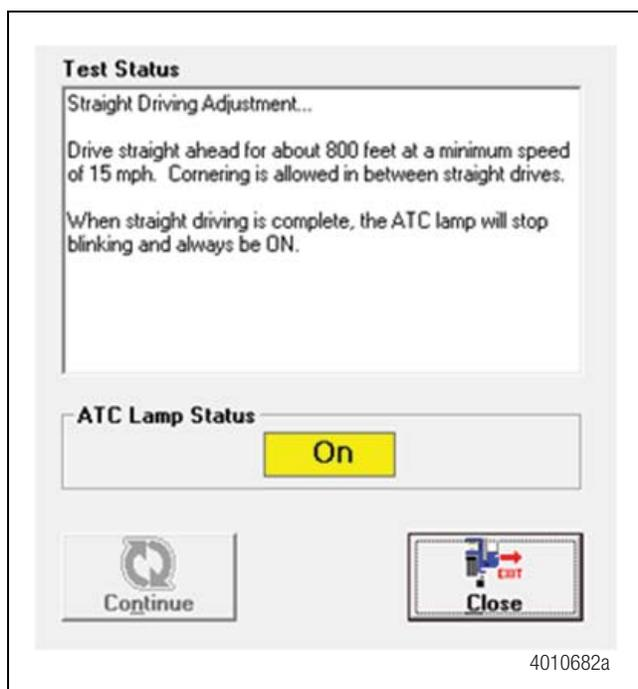

Figure 9.14
**NOTE:** If SAS calibration was completed before ESC initialization, the ATC lamp will be continuously blinking before ESC initialization begins. Figure 9.14.